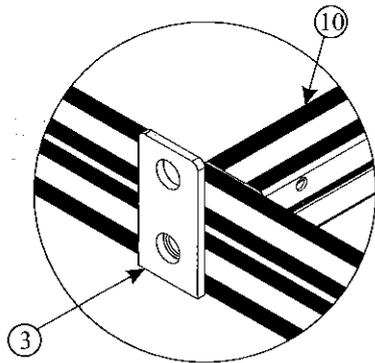

Fig. 1a.
1 Stand the Sideframes (1 & 2) on their uprights as shown in figure 1. Orientate the Backbar (3) so that the footplate is facing up, as shown in figure 1a. Attach the Backbar to the L/H Sideframe (1) by inserting the Backbar between the two bottom brackets, as shown in figure 1b. Fix the Backbar in position using two M8x80mm Hex Bolts (16), four 8mm Skiffy Washers (22) and two M8 Nylock Nuts (15) as shown in figure 1a.